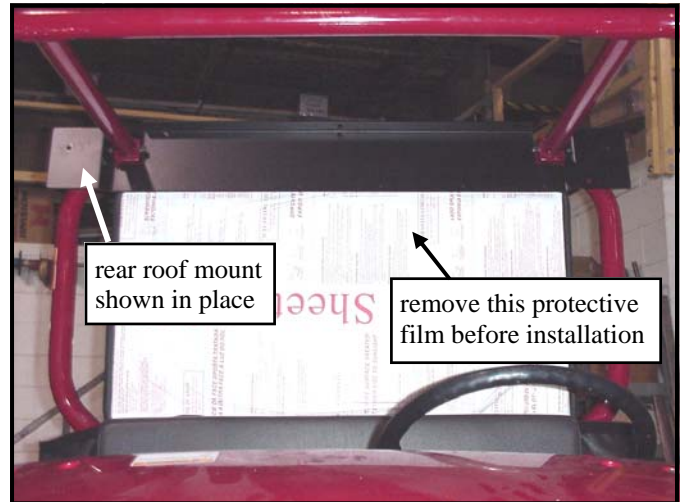

Fig. 3.2
3.2 Remove the protective film from the rear window and install it up against the inside surface of the expanded metal screen as shown in Fig. 3.2. NOTE: the bulb rubber on the perimeter of the rear window should be facing toward the front of the vehicle.
4.1 Install the rear roof mount as shown in Figures 3.2 and 4.1. Re-install the upper rear cab bar hardware that was removed above in step 4 (vehicle prep.). Orient the bolts so that the heads are towards the inside of the vehicle and the locknuts are towards the outside of the vehicle.